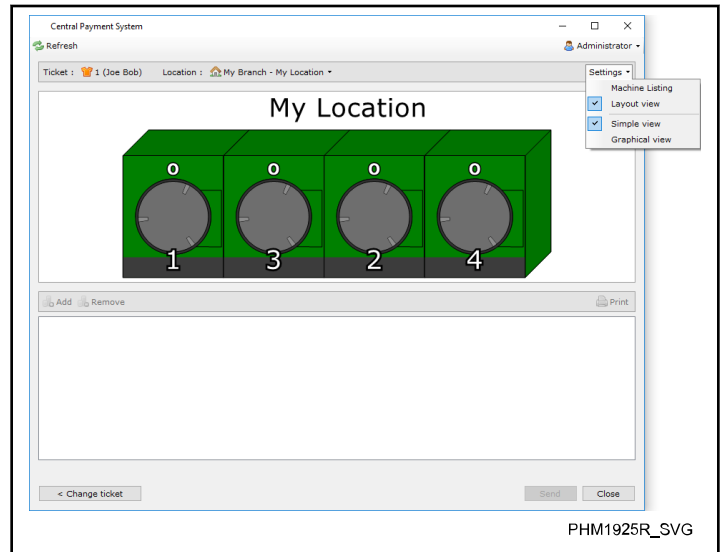

Figure 98
1. A machine and cycle can be selected from either a list or layout view and then from either the simple or graphical model. Refer to *Figure 98*.